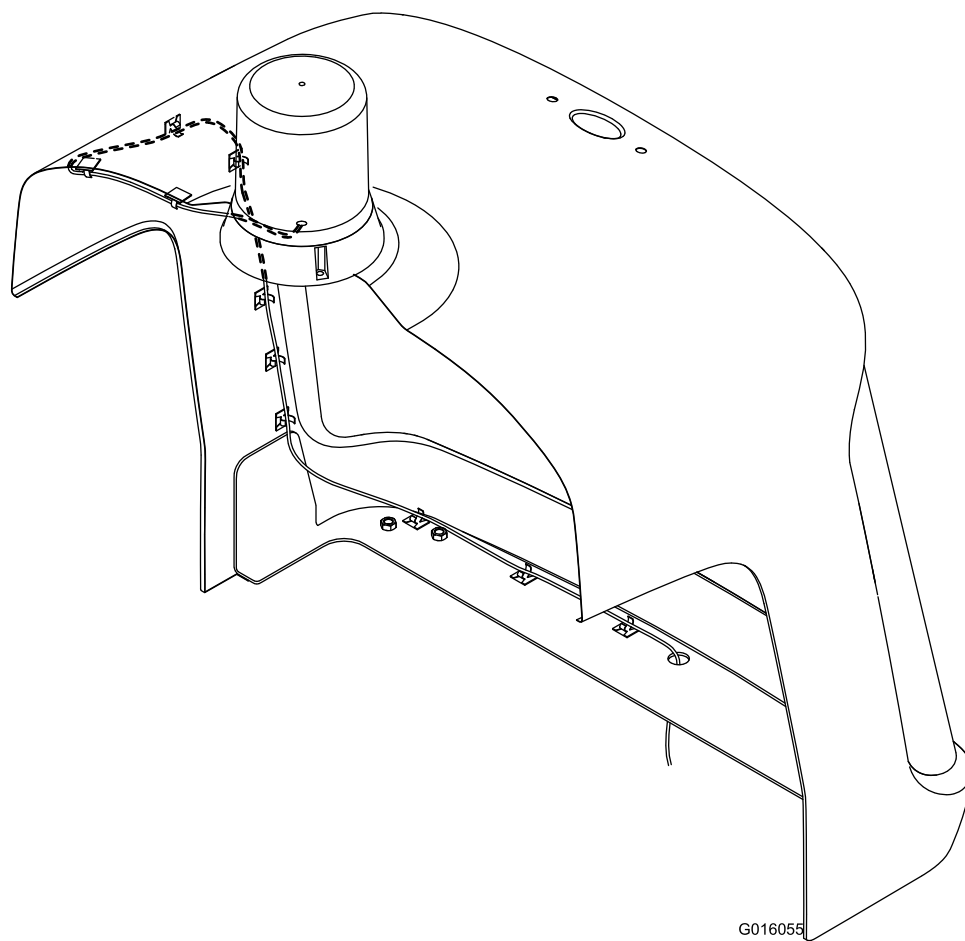

Figure 4
11. To assemble the beacon loom, fit the grommet over the bullet onto cable. Route the cable as shown in Figure 4.